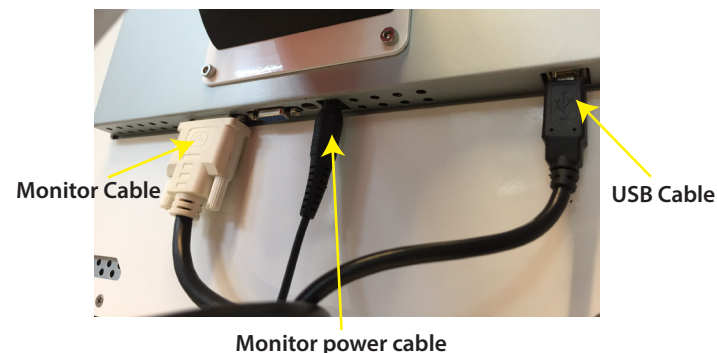

Fig. 2-5: CTMS001 monitor connections.
- Connect the monitor cable to the appropriate receptacle in the rear of the monitor (Fig. 2-5).